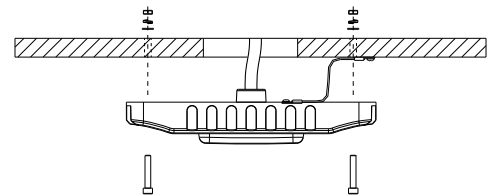

Figure 3
3. Fix another side of safety rope on the ceiling, then connect the wire of fixture to main supply according to local electrical connection mode, make sure good protection on the wire joint, after that, fix the fixture on the ceiling with accessory screws. (Figure 3)